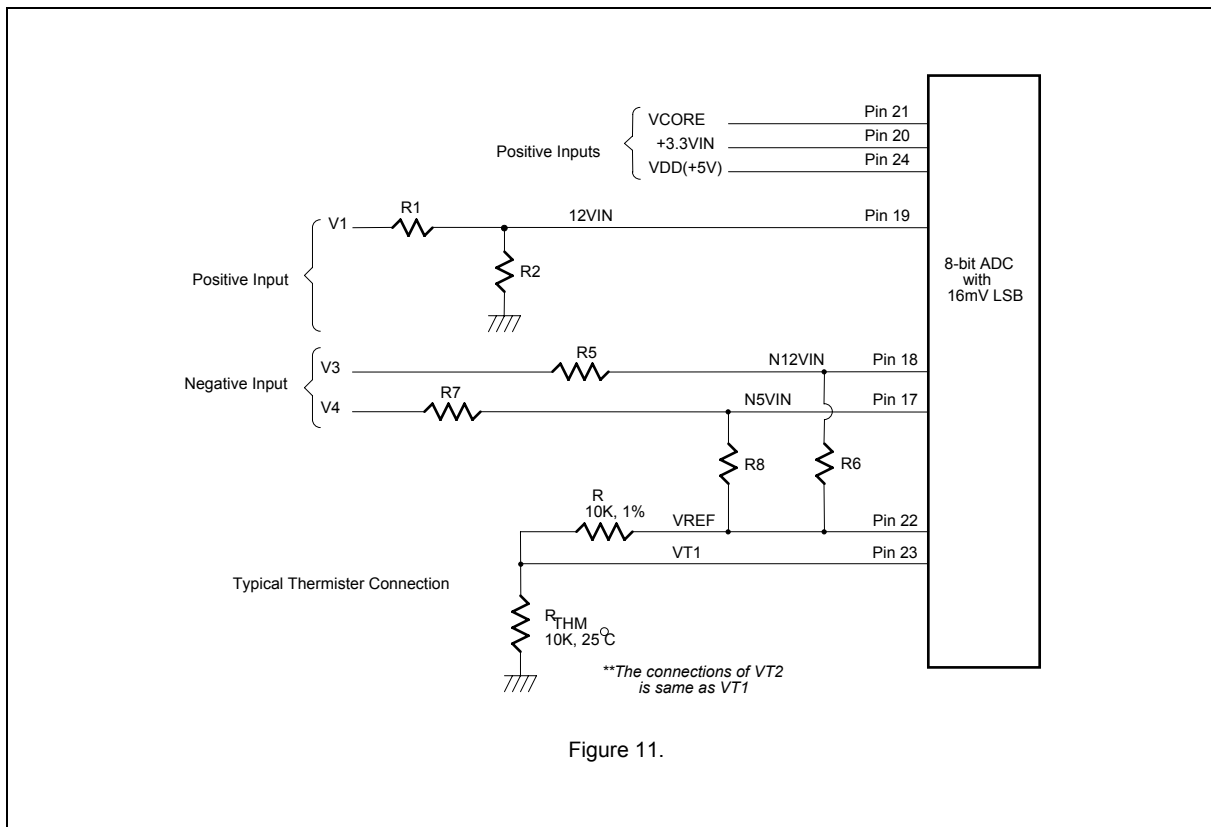

Figure 11.
The maximum input voltage of the analog pin is 4.096V because the 8-bit ADC has a 16mv LSB. Really, the application of the PC monitoring would most often be connected to power suppliers. The CPU V-core voltage, +3.3V and battery voltage can directly connected to these analog inputs. The 5VSB and +12V inputs should be reduced a factor with external resistors so as to obtain the input range. As Figure 11 shows.
The negative voltage should be connected two series resistors and a positive voltage VREF (is equal to 3.6V). In the Figure 11, the voltage V3 and V4 are two negative voltages which they are -12V and -5V respectively. The voltage V3 is connected to two serial resistors then is connected to another terminal VREF which is positive voltage. So the voltage node N12VIN can obtain a positive voltage if the scales of the two serial resistors are carefully selected. It is recommended from Winbond that the scale of two serial resistors are R5=232K ohms and R6=56K ohm. The input voltage of node -12VIN can be calculated by following equation.
W83783S can connect three thermistors to measure three different environmental temperatures. The specification of thermistor should be considered to (1)  $\beta$  value is 3435K, (2) resistor value is 10K ohms at 25°C. In the Figure 11, the themistor is connected by a serial resistor with 10K Ohms, and then connect to VREF (Pin 37).